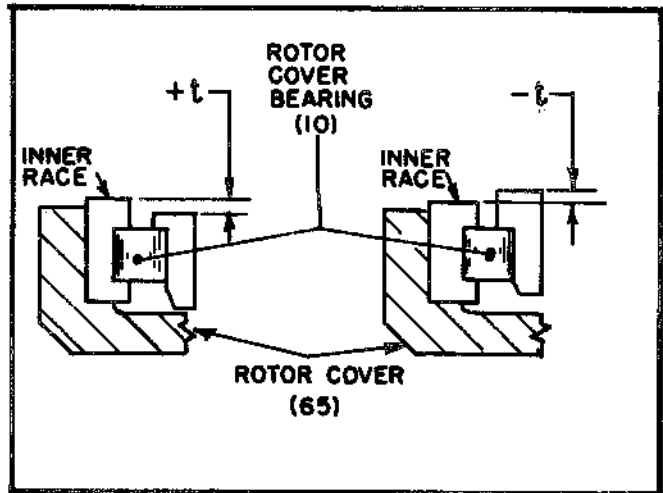
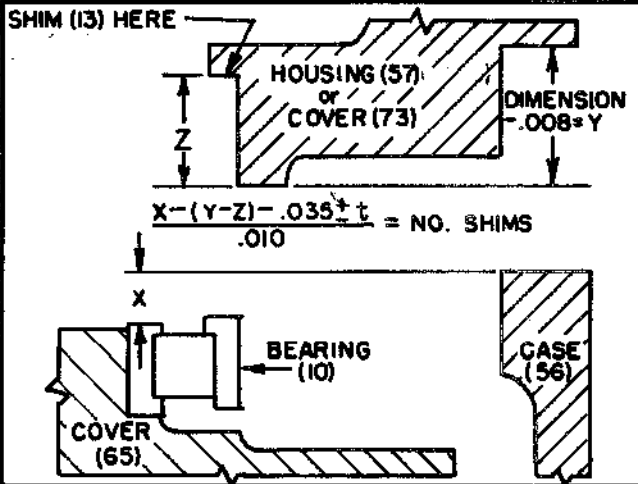

FIGURE 10. INITIAL ROLLER BRG. RACE PROJECTION.
FIGURE 11. ROTOR END PLAY SHIMMING.
6. ROTOR COVER. Position rotor cover (65), with balance mark "0" matching "0" mark on rotor (16) and force cover down uniformly with cover screws (66) holding spacers (17 & 17A) and thrust rings (18) securely. There should be approximately 0.062" clearance between rotor and cover when cover is tight. Secure screws with new soft iron or brass lock wire (106). With outer race of rotor cover bearing (10) resting on roller faces, measure height difference between outer and inner race faces (see figure 10). If rotor cover bearing is not replaced, check projection in a similar manner; but with rotor cover and housing (57 or 72) separated from pump assembly. Record this difference as "+t" if inner race projects, or as "-t" if outer projects. To check for correct rotor end play, (see figure 11) lay a straight edge across the open end of case (56) and measure from the bottom edge to top face of inner race of bearing (10). Write down this measurement "X". Measure distance from front housing (57 or 72) where it mates against gasket (29) to bottom surface of front housing (57) or assembled gear pump cover (73). Subtract 0.008 from this dimension (compressed gasket thickness) and label remainder "Y". Measure distance from bottom surface of front housing (57) or cover (73) to bottom of bearing counter bore (without shims (13) in place) and label measurement as "Z". Calculate number of 0.010" bearing shims (13) to be used as follows: